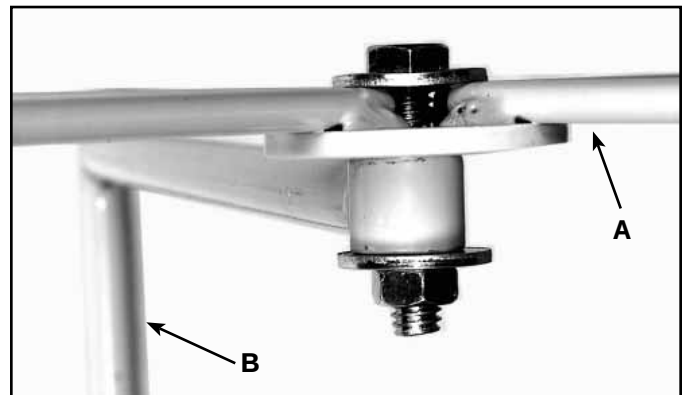
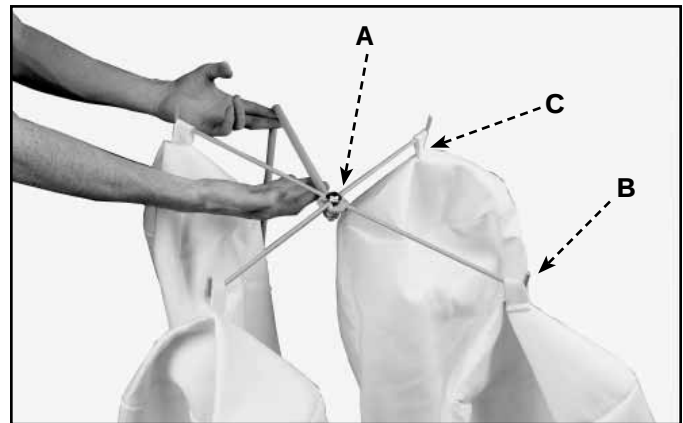

Fig. 12
Fig. 12A
2. Place large O.D. 5/16" flat washer on 5/16"x1-1/2" hex head screw. Insert the screw through hole in center of bag hanging assembly (A) Fig. 12 and Fig. 12A and through the hole in the upper bag hanging rod (B) Fig. 12. Then place another large 5/16" flat washer on end of screw followed by a 5/16" lock nut. Assembly shown complete in Fig. 12. Tighten all securely with 12mm wrench.
3. Hang bag loops (C) Fig. 12A around hooks on bag hanging assembly (B), as shown in Fig. 12A